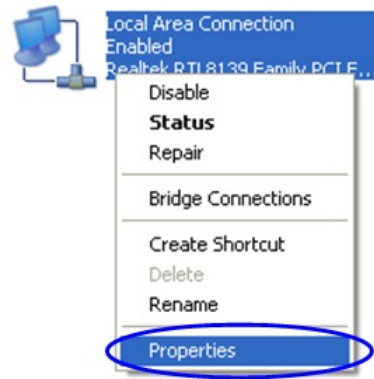

Figure 12. LAN Connection properties
3. In "Network connections" folder right mouse button click on the LAN connection and click "Properties". See Figure 12